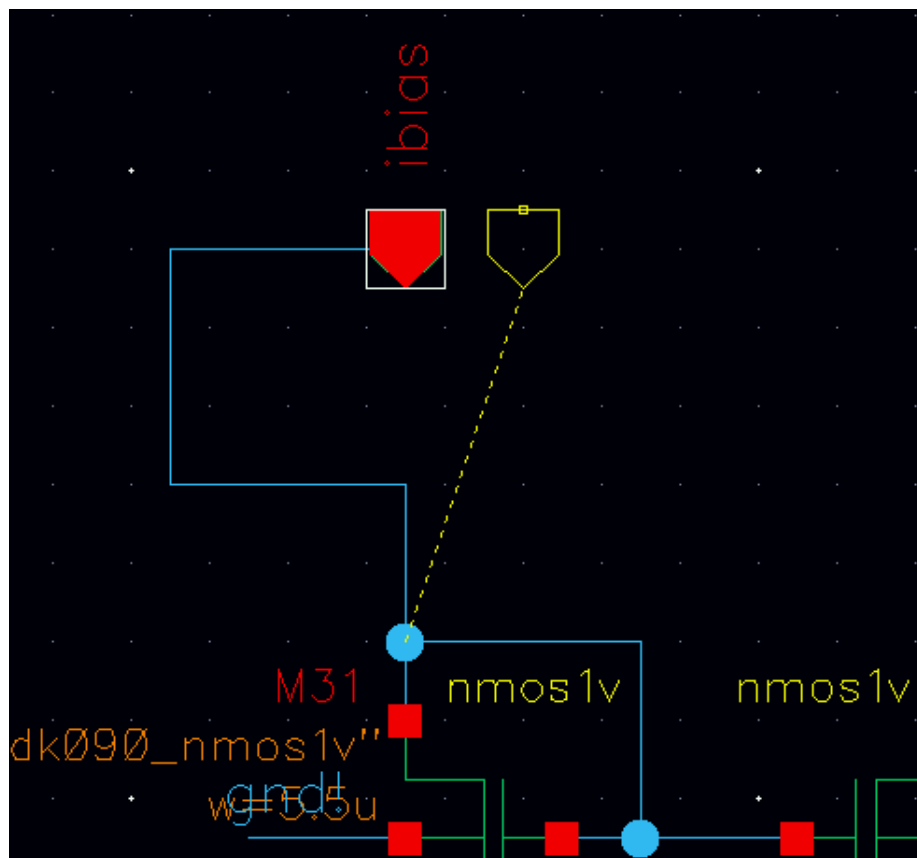

Figure 7-4 Pin option checked so all connected wire segments will be rerouted
- When the *pin* option is **checked**, *all* wire segments between the selected pin and the next solder dot, instance, or pin, will be rerouted (as shown in Figure 7-4 on page 476).
- When the *wire* option is **checked**, *all* wire segments connected between the selected wire and the next solder dot, instance, or pin, will be rerouted (as shown in Figure 7-4 on page 476).